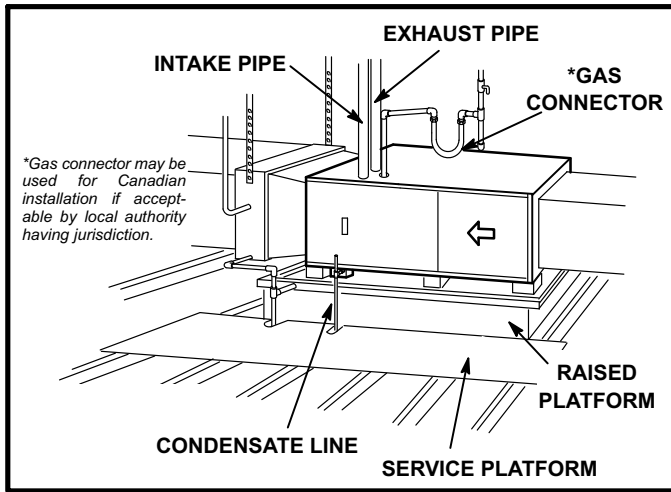

**FIGURE 18**
The G61MPV may also be installed as a unit heater. Either suspend the furnace as shown in figure 18, or install the furnace on a field-fabricated raised platform. The unit must be supported at both ends and beneath the blower deck to prevent sagging.
- 5 - Mount unit on support frame as shown in figure 18.
- 7 - If unit is suspended above finished space, hang the field-provided drain pan below the support frame as shown in figure 18. Leave 5-1/2 inches for service clearance below unit for condensate trap.
The G61MPV may also be installed as a unit heater. Either suspend the furnace from roof rafters or floor joists, as shown in figure 18, or install the furnace on a field-fabricated raised platform, as shown in figure 19. The unit must be supported at both ends and beneath the blower deck to prevent sagging. The condensate trap must be installed where it can be serviced at a later date.